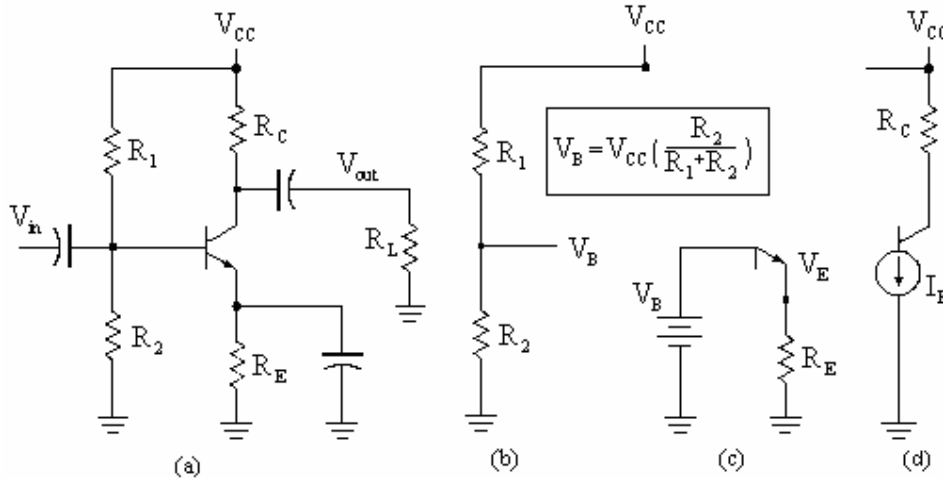

Fig.1: Analysis of CE Amplifier
To make any transistor circuit amplify AC signals, the base-emitter junction must be forward biased, and the base-collector junction must be reverse-biased. The purpose of bias circuits is to establish and maintain the proper DC operating conditions for the transistor. There are several ways to apply DC bias. The simplest method, called base bias or fixed bias, is frequently unsatisfactory due to manufacturing variations between transistors and sensitivity to temperature changes. Base bias is recognized by a single resistor connected from V_{CC} to the transistor base. A much more widely used bias circuit is called voltage-divider bias. Voltage-divider bias is not as sensitive to transistor variations and temperature changes. Voltage-divider bias is shown in Figure 1(a).
To analyze any amplifier, start with the DC parameters. The steps to solve for the DC parameters for the CE amplifier with voltage-divider bias illustrated in Figure 1(a) are:
1. Mentally remove capacitors from the circuit since they appear open to DC. This causes the load resistor, R_L , to be removed. Solve for the base voltage, V_B , by applying the voltage divider rule to R_1 and R_2 , as illustrated in Figure 1(b).
2. Subtract the 0.7 V forward-bias drop across the base-emitter diode from V_B to obtain the emitter voltage, V_E , as illustrated in Figure 1(c).
3. The DC current in the emitter circuit is found by applying Ohm's law to R_E . The emitter current, I_E , is approximately equal to the collector current, I_C . The transistor appears to be a current source of approximately I_E into the collector circuit, as shown in Figure 1(d).